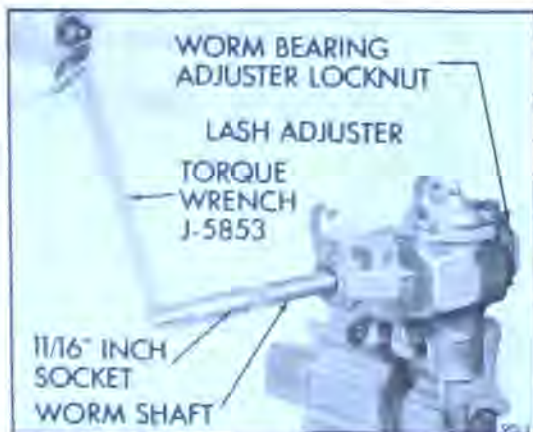

Figure 90-1 Checking Adjustments on Bench
1. Attach inch-pound torque wrench to worm shaft and turn shaft to extreme right or left position. See Figure 90-1.
7. If necessary adjust worm bearing preload by loosening worm bearing adjuster lock nut (see Figure 90-1) using a drift. Turn bearing adjuster as required to bring torque between 2 and 7 pound inches. Tighten lock nut, then recheck preload.